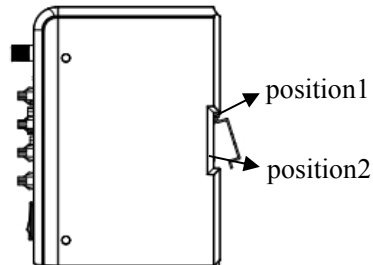

Figure 4.1 Mounting steps
1. Installation (Figure 4.1): (1) Lock the controller back panel DIN rail track to position 1 rail.
(2) Push down controller toward position 2.